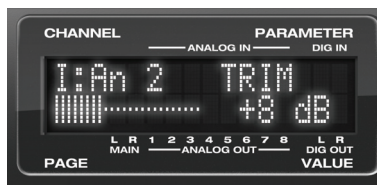

Figure 3-3: Setting the input trim for a TRS analog input pair.
- 5 After splitting the stereo pair, if necessary, turn the PARAM knob until you see the TRIM parameter in the LCD (Figure 3-3):